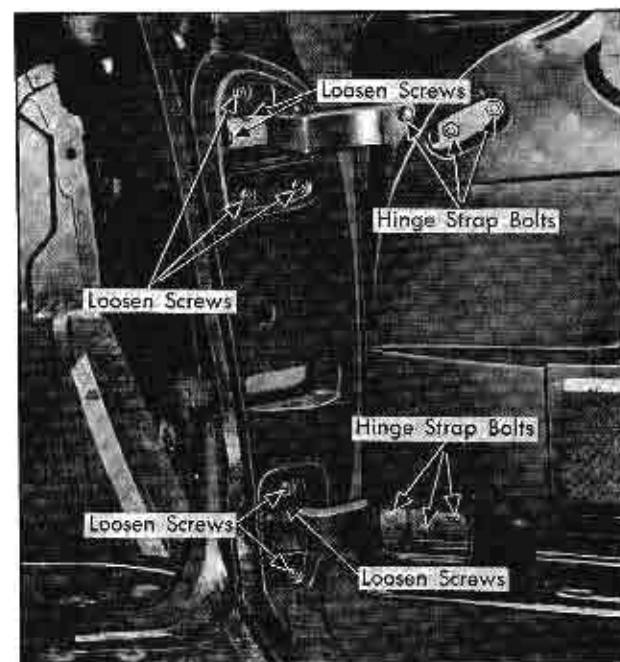

Fig. 3-20 Front Door Hinge Attaching Bolts
6. Loosen screws indicated in Fig. 3-20.
5. Loosen hinge strap bolts indicated in Fig. 3-20, and shift door as required.